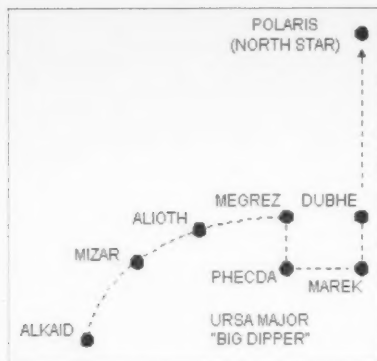

Fig. 2. The Big Dipper and its relationship to Polaris.
Once you know where the beam is to be pointed, you should make sure that your beam is mounted properly so that the rotor control meter displays the beam heading accurately. At zero, north or 360 on the meter, the beam should be pointing directly toward the north geographic pole. An easy way to locate true north is to use the star "Polaris," often called the North Star. Polaris is within one (1) degree of true north and is quite visible in the Northern Hemisphere. It can be located by using the stars in the Big Dipper (Ursa Major) as guides. The Big Dipper and its relationship to Polaris are shown in Fig. 2. (The Big Dipper will change positions during the year, but the pointer stars will always point to Polaris.)